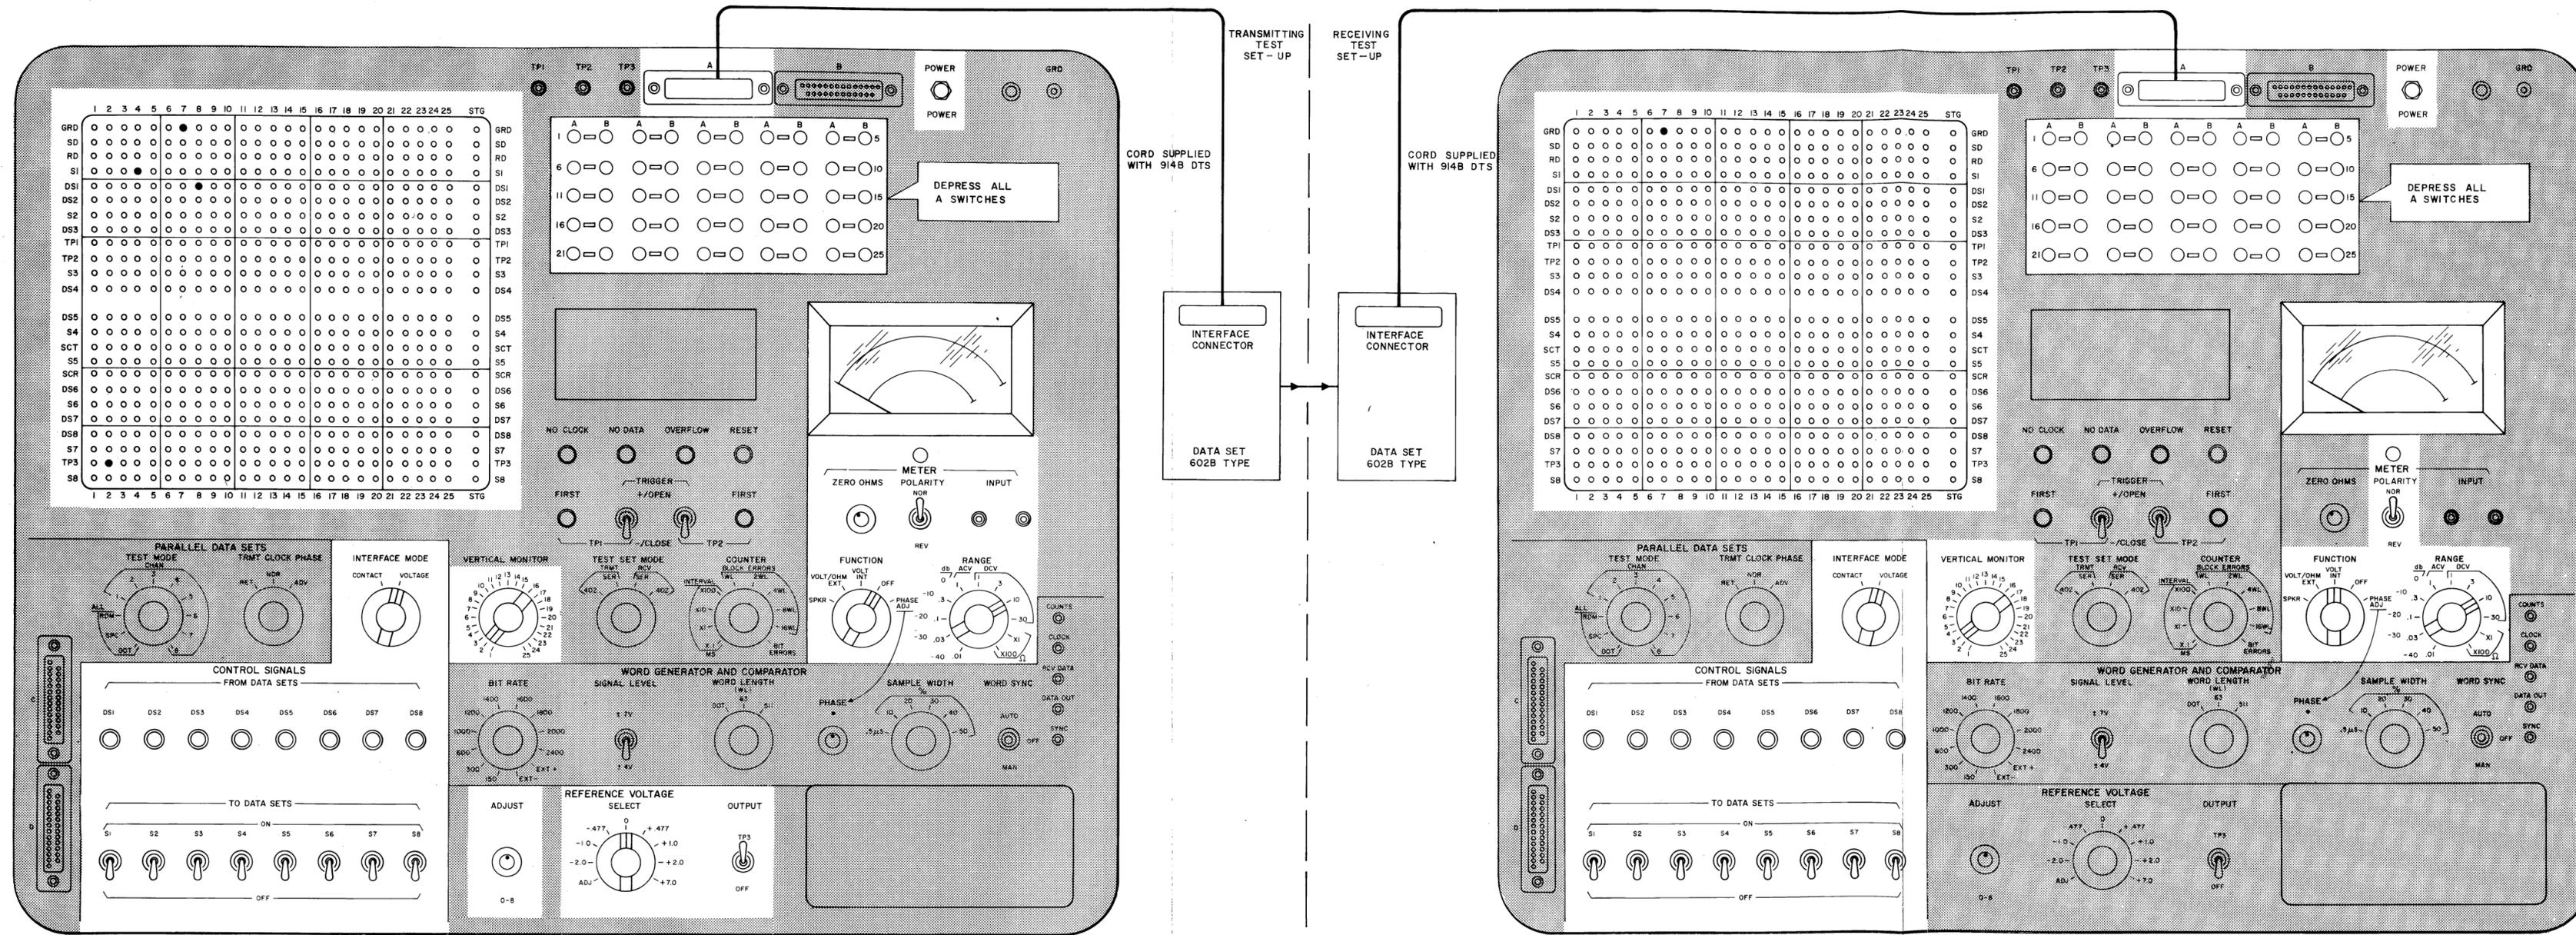

Fig. 4—End-to-End Test—914B Data Test Set Method
(1) Connect equipment as shown in Fig. 4.	(1) Connect equipment as shown in Fig. 4.
(2) Plug 914B DTS into a source of 117-volt 60-Hz power, and depress POWER switch.	(2) Plug 914B DTS into a source of 117-volt 60-Hz power, and depress POWER switch.
(3) Call receiving station and request an end-to-end test be conducted.	(3) Not applicable.
(4) Place Data Set 602B-type in the data mode.	(4) Place Data Set 602B-type in the data mode.
(5) Place S1 ON. DS1 lights.	(5) Meter should indicate $0.0 \pm 0.2$ volt.
(6) Place S1 OFF. DS1 extinguishes.	(6) Not applicable.
(7) Place SELECT switch in ADJ position.	(7) Not applicable.
(8) Place METER FUNCTION switch to VOLT INT.	(8) Not applicable.
(9) Rotate ADJUST control until meter indicates 3.5 volts.	(9) Not applicable.